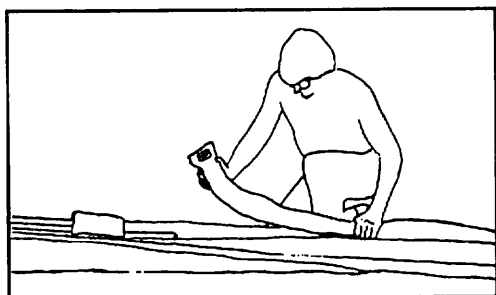

Figure 67
13) Put the batten bag on the battens. Stow the battens between the rear leading edges. Stow the nosecone under the forward velcro sail tie. (Figure 67, 68) Zip up the bag.